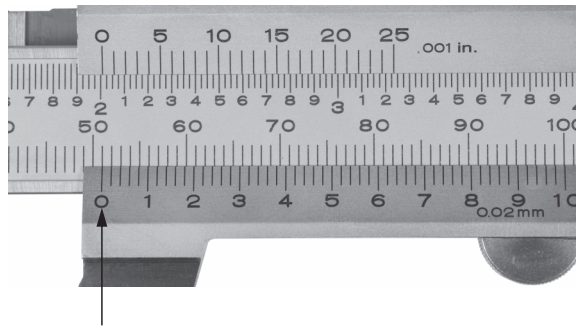

Figure 36: Reading a vernier caliper.
8. Which of the following measurements corresponds to the reading in millimeters shown in Figure 36? The small arrow shows a detail of the metric vernier scale.